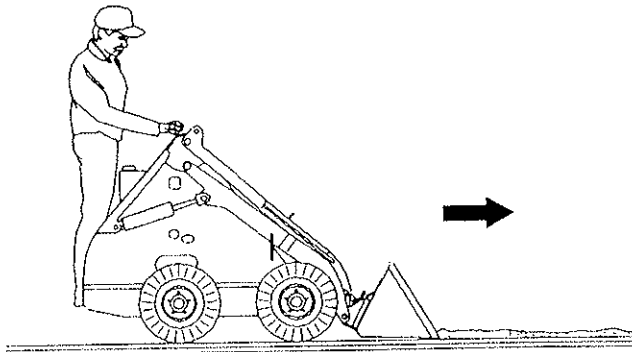

FIGURE 18
3. Another method of levelling is to travel forward with bucket down and level, full of material and pushing excess into low areas. Depth is controlled by tilting the bucket slightly up or down, as in **Figure 18**.